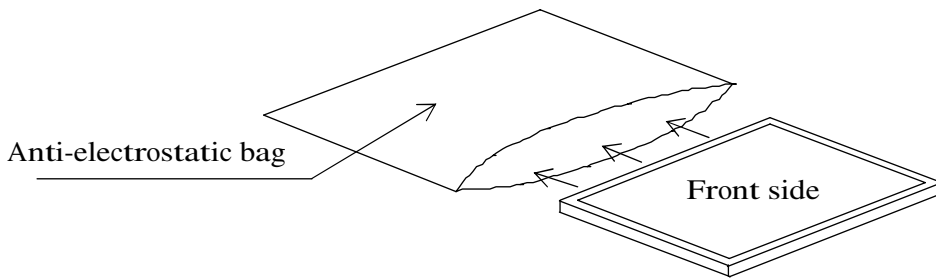

Fig. 17-1(a) Packaging method
• When returning the LCD modules, adhere to the following procedures not to damage the LCD panel or the backlight cables. (Fig. 17-1(a)~(b))